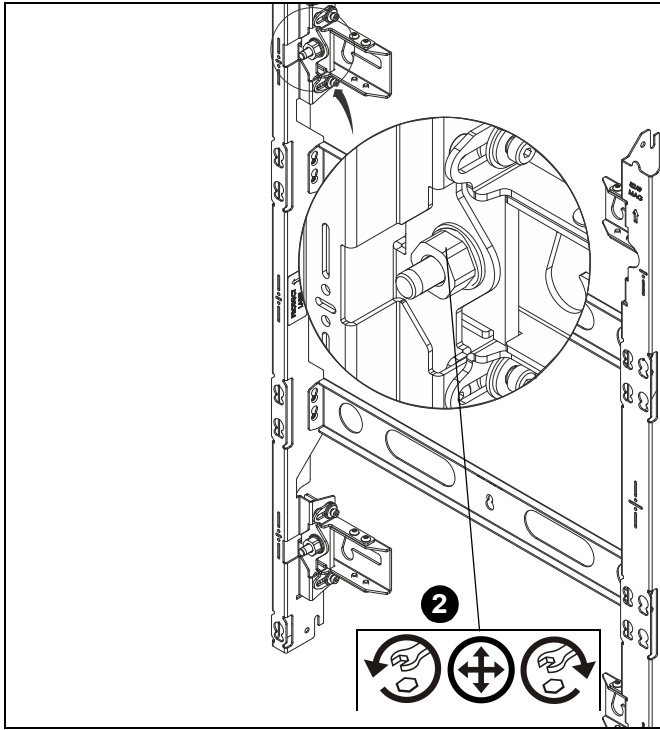

Figure 22
2. Turn 3/4" hex nuts near feet of mounting system to adjust depth as needed. (See Figure 22)